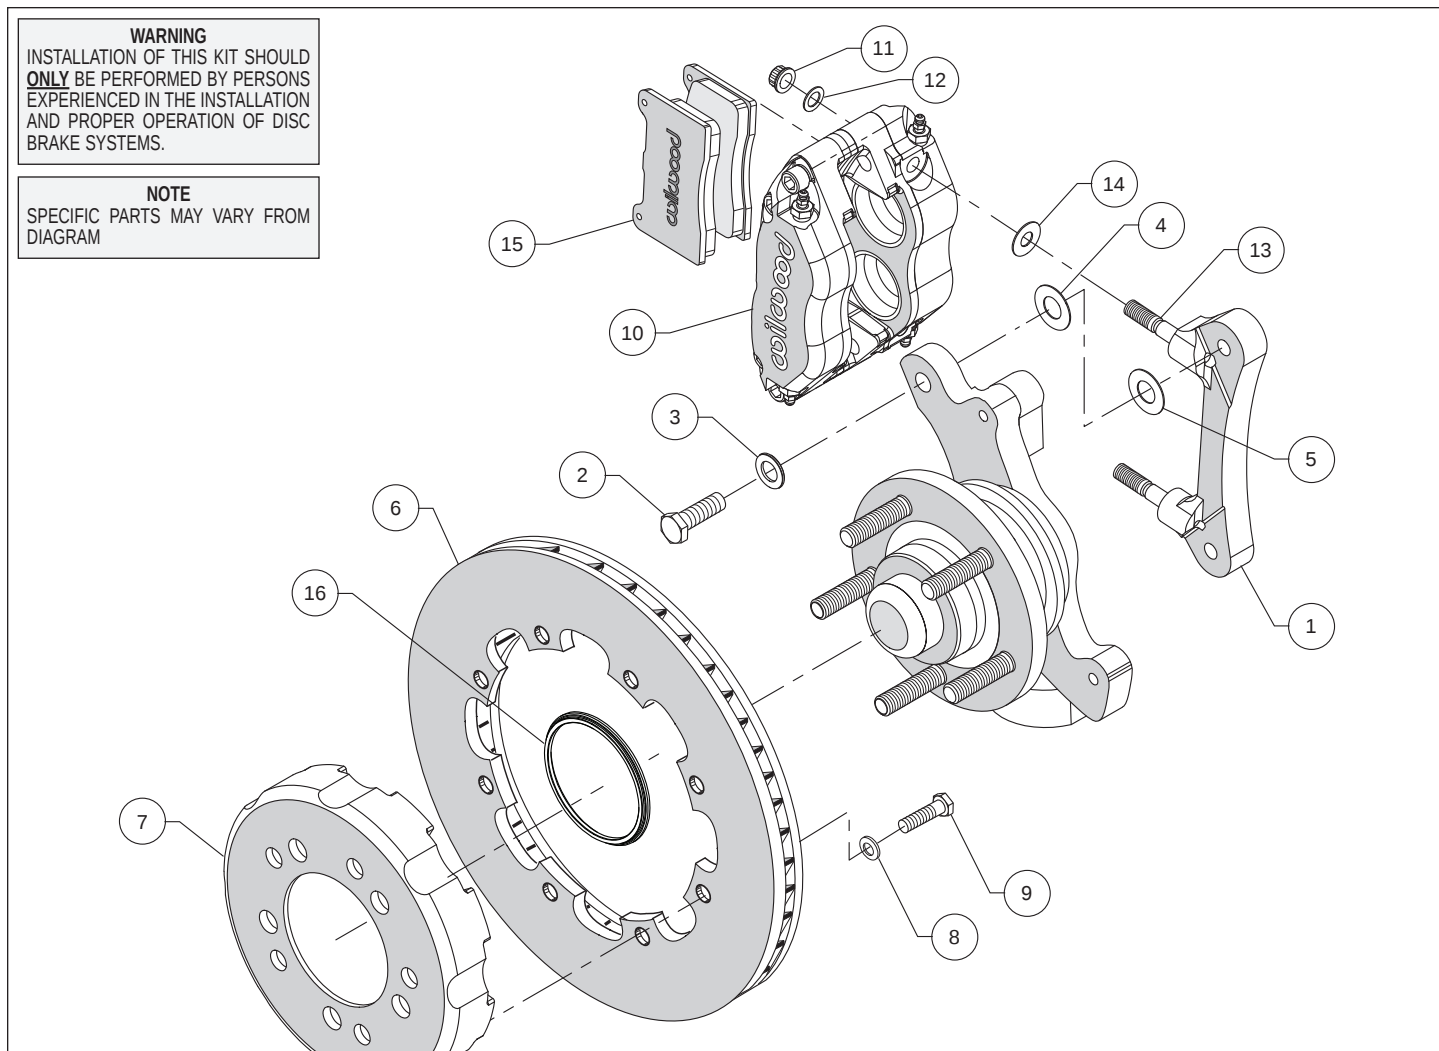
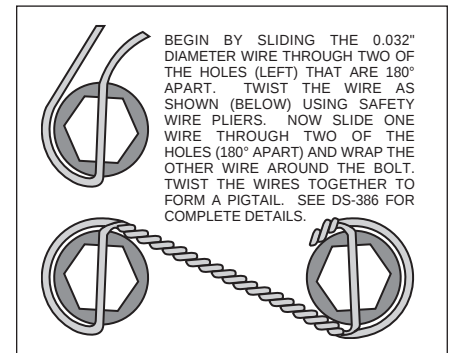

Figure 1. Typical Installation Configuration
Figure 4. Safety Wire Diagram
- The caliper mount bracket assembly (1) should be installed first with clean, dry threads on the mounting bolts. Install the bracket on the inboard side of the spindle by sliding bolt (2) through flat washer (3), and spindle ear from the outboard side of the spindle. Place two shim washers (5) between the bracket (1) and the spindle (see figure 1). The bracket must tighten squarely against the inboard side of the modified caliper mount bosses on the spindle body. Inspect for interference from casting irregularities, machining ridges, burrs, etc. Later, after the caliper, pad, and rotor alignment has been checked, and any necessary shims have been put in place, the mount bolts should be coated with red *Loctite*® 271 and torqued to 65 ft-lbs.
- Slide the rotor registration adapter (16) onto the axle register on the axle flange with the smaller O.D. facing toward the hat (7)
- With the larger I.D. side of the rotor (6) facing away from the hat (7), attach the rotor (6) to the hat (7) using washers (8) and bolts (9) as shown in Figure 1. Using an alternating sequence, apply red *Loctite*® 271 to the threads and torque bolts to 25 ft-lb. For an added measure of security, the bolts may be safety wired using standard 0.032 inch diameter stainless steel safety wire as shown in Figure 4. -- Please refer to Wilwood's data sheet DS-386 (available at www.wilwood.com/Pdf/DataSheets/ds386.pdf) for complete safety wire installation instructions.